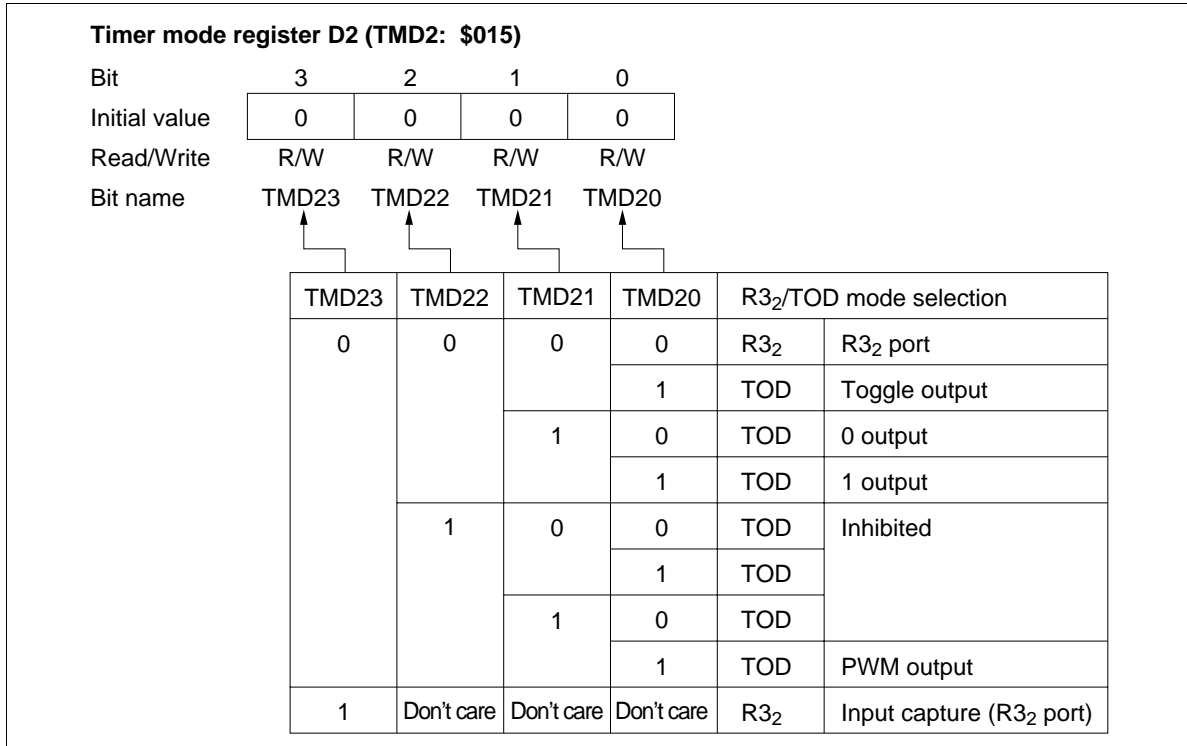

Figure 60 Timer Mode Register D2 (TMD2)
- **Timer mode register D2 (TMD2: \$015):** Four-bit read/write register that selects the timer D output mode and input capture operation as shown in figure 60. It is reset to \$0 by MCU reset.